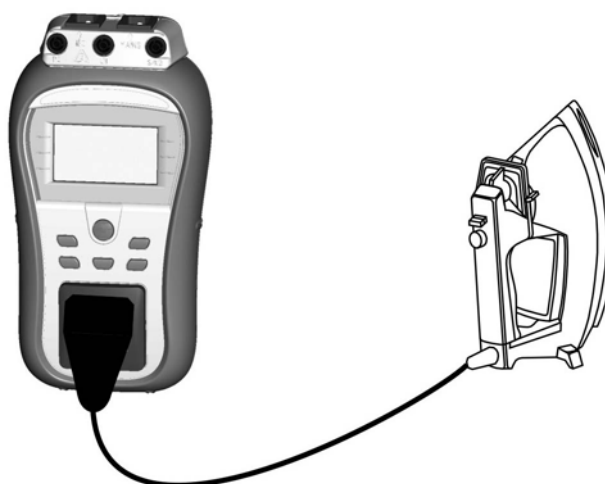
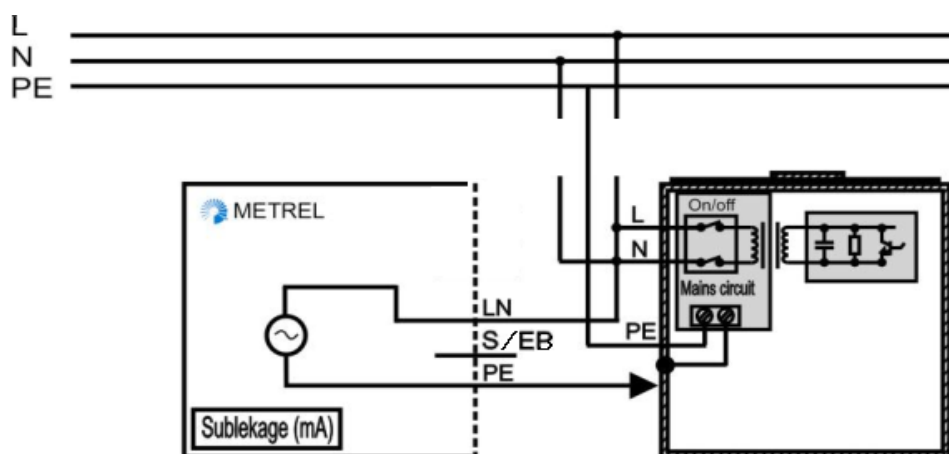

Figure 5.17: Measurement of Substitute leakage current
Figure 5.18: Measurement of substitute leakage current of fixed installed DUTs
- ▶ Connect device under test to the instrument (see **Figure 5.17** and **Figure 5.18**).